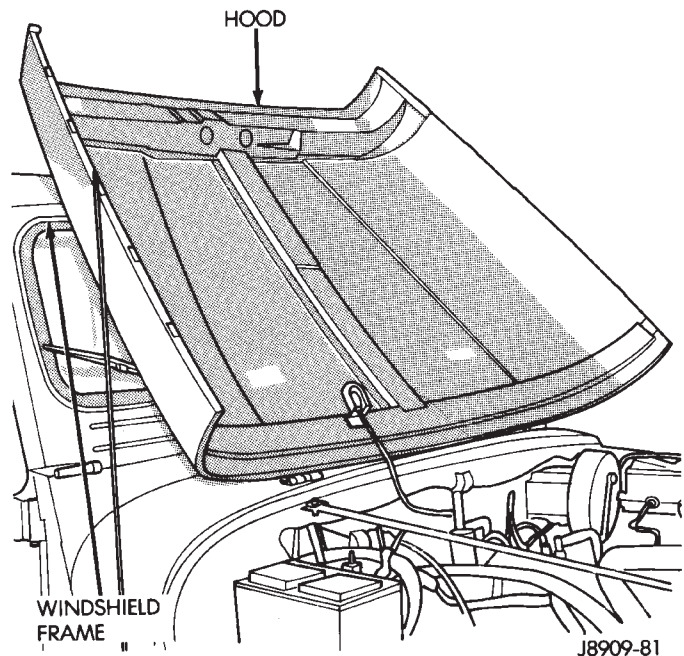

Fig. 19 Hood on Windshield Frame
- (1) Place a protective cloth over the windshield frame. Raise the hood and rest it on the windshield frame (Fig. 19).